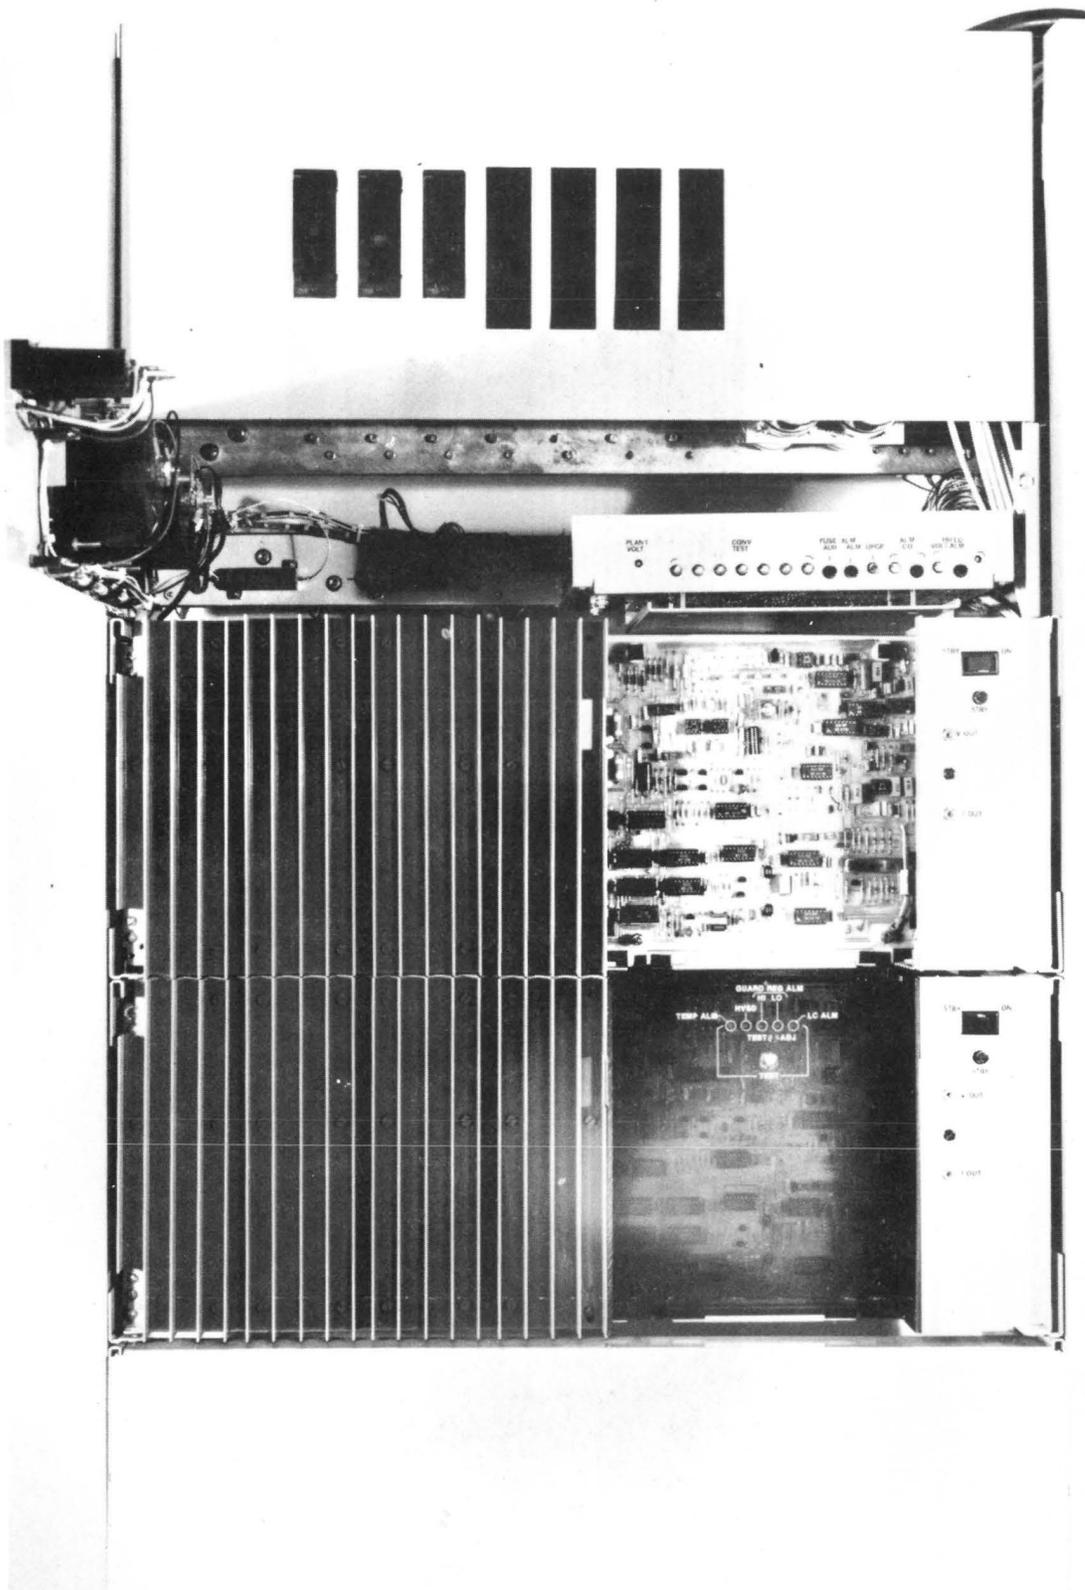

Fig 2—J86922A Converter Frame
1.20 All switches, alarm indicators and adjustments for in service testing are located on the edge of the ED-82932 plant control and Alarm Circuit Pack (CP 1) and are directly accessible from the front of the equipment. Easy access is provided with the panel meter hinged door. (See Fig 2.)